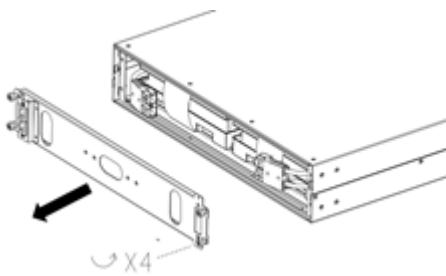
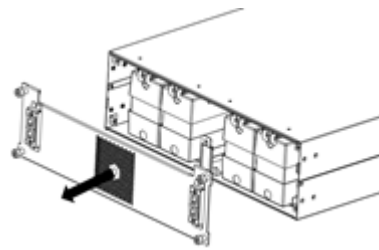

Figure 3
Figure 4
- 3) Using a Philips screwdriver, loosen and remove the battery retention bracket by turning screws counterclockwise until they release from the battery cage. (Figure 3 for BP192V5CRTXL, Figure 4 for BP192V10CRTXL)